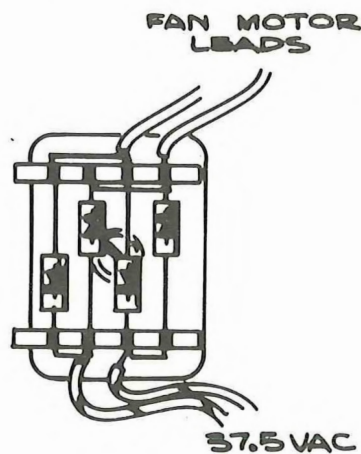

FIG. 3
C. TO REPLACE SELENIUM RECTIFIER IN THE FOLLOWING INSTRUMENTS: See Fig. 3 Types RM15 SN 101-820; RM16 SN 101-580; RS16 SN 101-up; RM17 SN 101-309